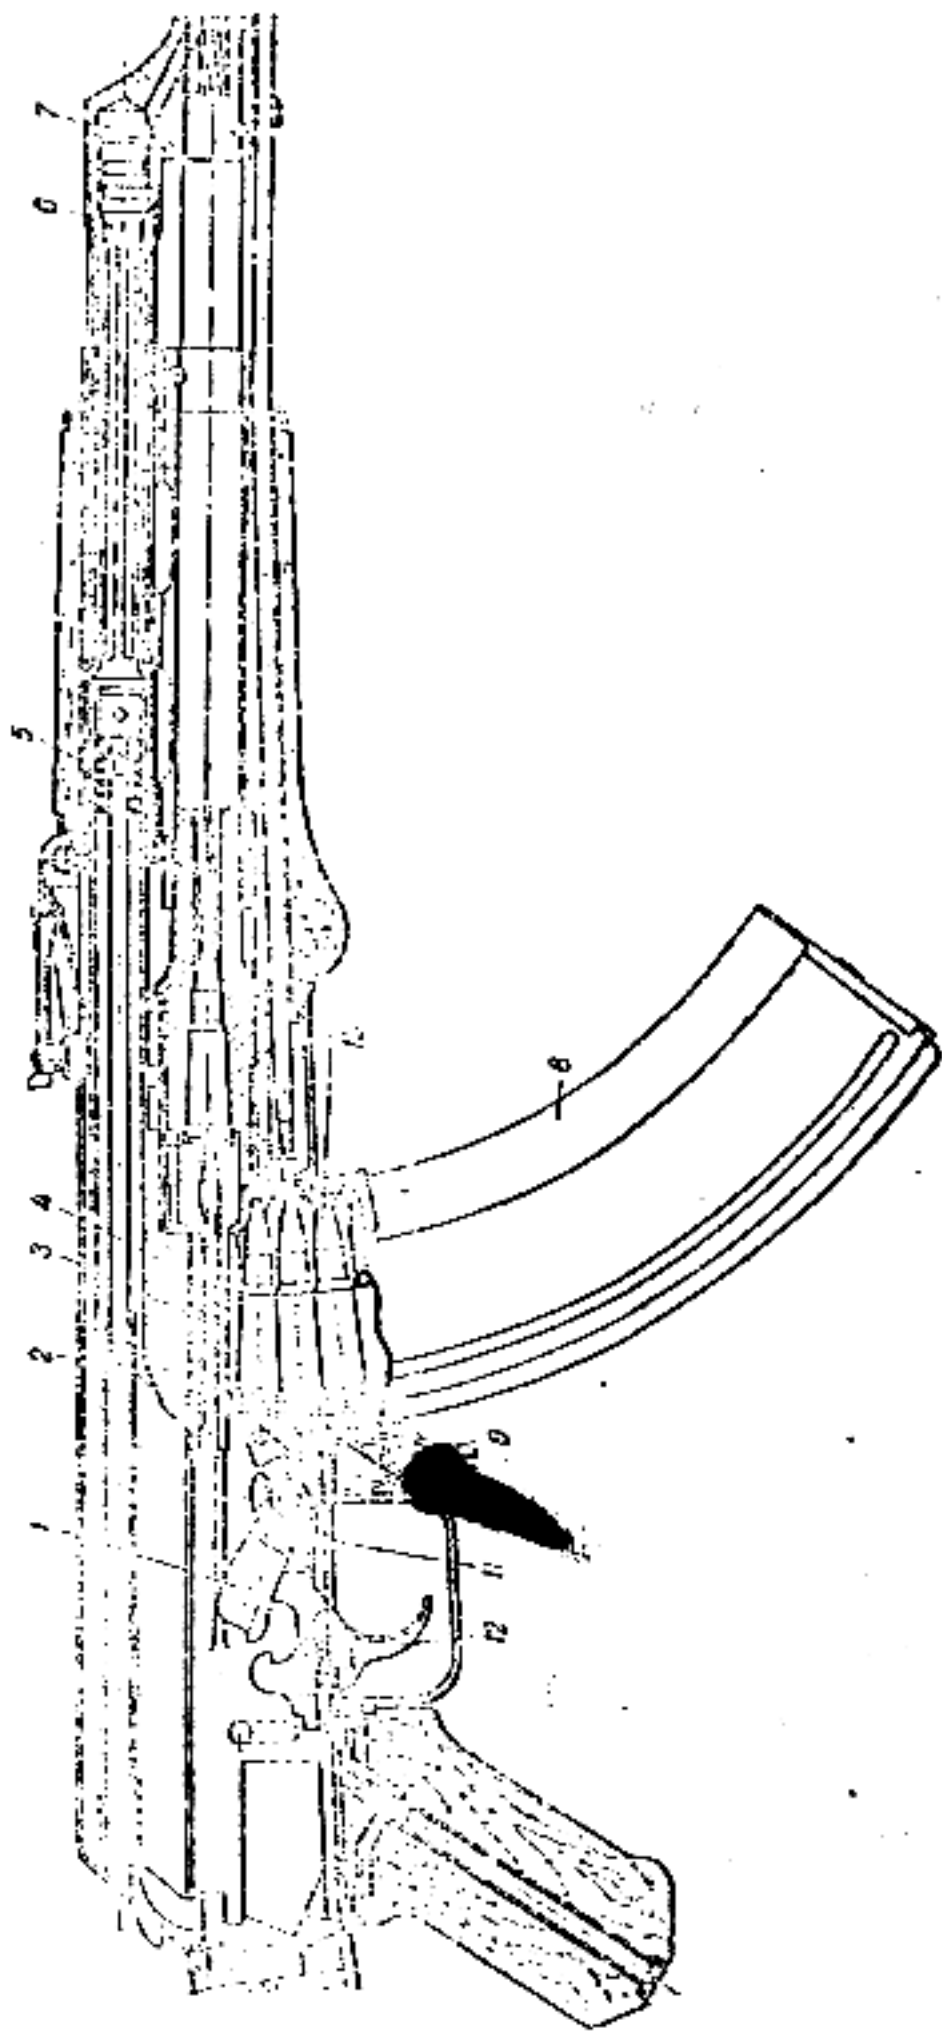

Figure 63. Position of parts after loading and before firing.
The firing pin (3) (fig. 63) moves to the rear, in which position the rear end of the pin protrudes from the rear of the bolt.
With the parts in this position, the automatic rifle is ready to be fired (see fig. 63).
The powder gases force the bullet to cut itself into the rifling and to move through the bore. After the bullet has passed the gas port in the barrel, powder gases enter the gas cylinder (7) (fig. 63) and force the gas piston (6) and operating rod to move to the rear.